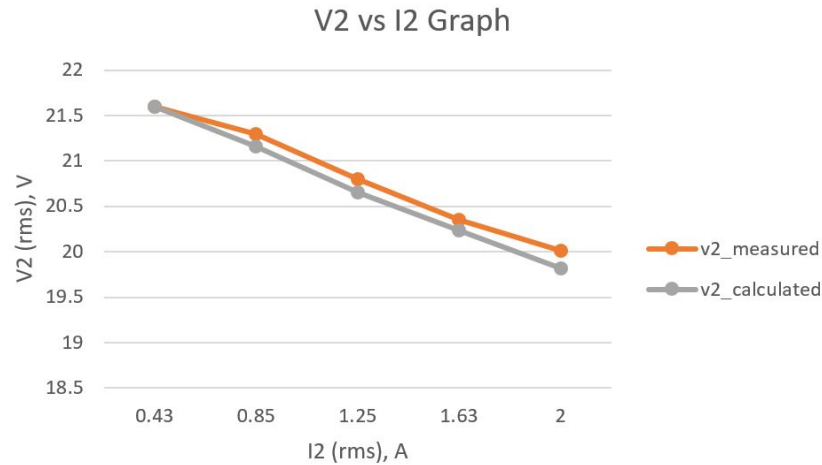
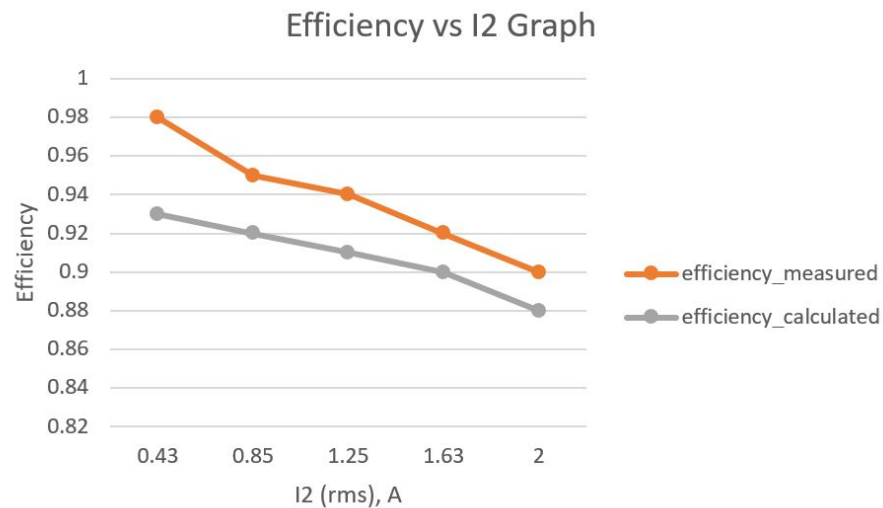

Figure 2.6-3: Measured and Calculated V2 and I2 Comparison Graph
Figure 2.6-5: Measured and Calculated Efficiency and I2 Comparison Graph
- The three graphs above (Figure 2.6-3 to Figure 2.6-5) show roughly the same trend for V_2 vs I_2 , phase1 vs I_2 and efficiency vs I_2 . This indicates the transformer with calculated values from Fig B can represent the equipment used in the lab.